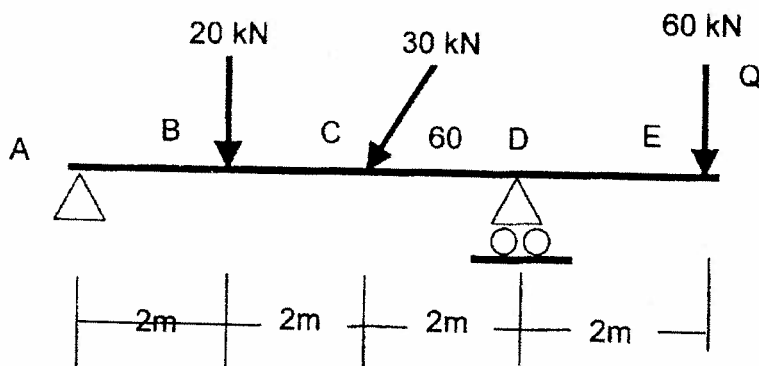

Fig. 3
17. Draw the SFD and BMD for a simply supported beam loaded as shown in Fig. 3 using Graphical method.